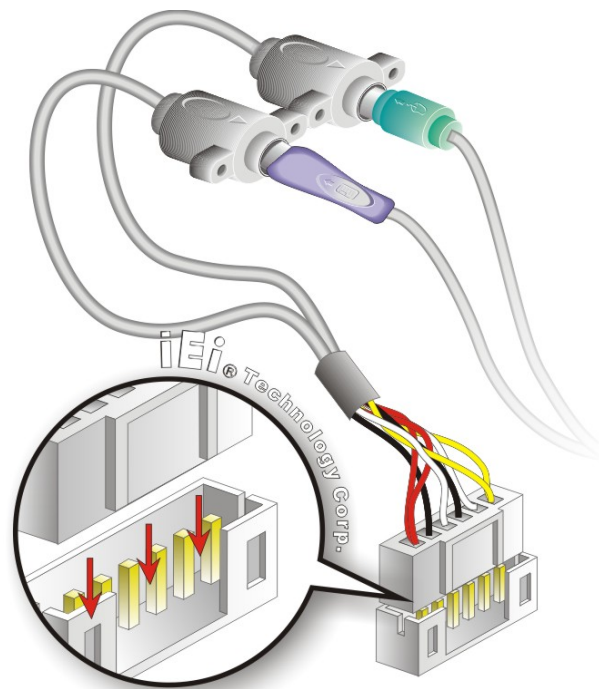

Figure 5-12: Keyboard/mouse Y-cable Connection
- Step 2: Align the connectors.** Correctly align pin 1 on the cable connector with pin 1 on the WAFER-8522 keyboard/mouse connector. See **Figure 5-12**.
- Step 3: Insert the cable connectors** Once the cable connector is properly aligned with the keyboard/mouse connector on the WAFER-8522, connect the cable connector to the onboard connectors. See **Figure 5-12**.
- Step 2: Align the connectors.** Correctly align pin 1 on the cable connector with pin 1 on the WAFER-8522 40-pin serial port connector. See **Figure 5-12**.
- Step 3: Insert the cable connectors** Once the cable connector is properly aligned with the 40-pin serial port connector on the WAFER-8522, connect the cable connector to the onboard connectors. See **Figure 5-12**.